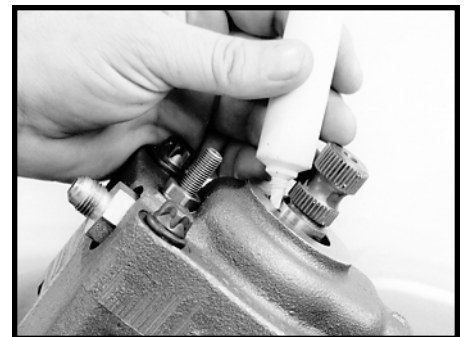

Figure 27
- 2.8 Pack the area around the input shaft with high temperature industrial grease per Ross specification 045231, *Mobil Temp 1 or 2 equivalent. SEE FIGURE 27.